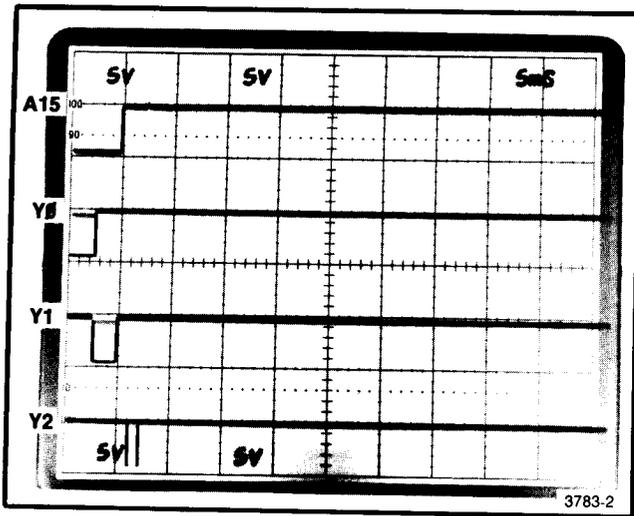

Fig. 4-23. A15 and Y0 through Y2 of address decoder U1028 on the GPIB board.
**GPIB Board Address Decoders.** Address decoder U1021 on the GPIB board sets its outputs low in sequence while the 496P is operating in the microcomputer test mode. Y0 through Y2 are shown in relation to A15 in Fig. 4-23. Although not shown, Y3 through Y7 are asserted in order with the same pulse width.